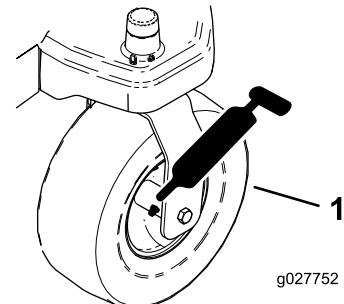
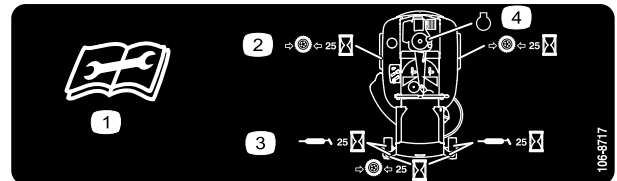

Figure 22
Figure 23
3. Clean the grease fittings with a rag (Figure 22 and Figure 23).
4. Connect a grease gun to each fitting (Figure 22 and Figure 23).